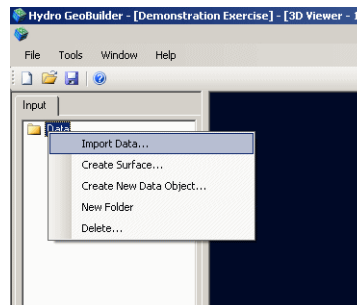

Figure 3 Importing data
- ☞ **Import Data...**, from the pop-up menu (Figure 3)